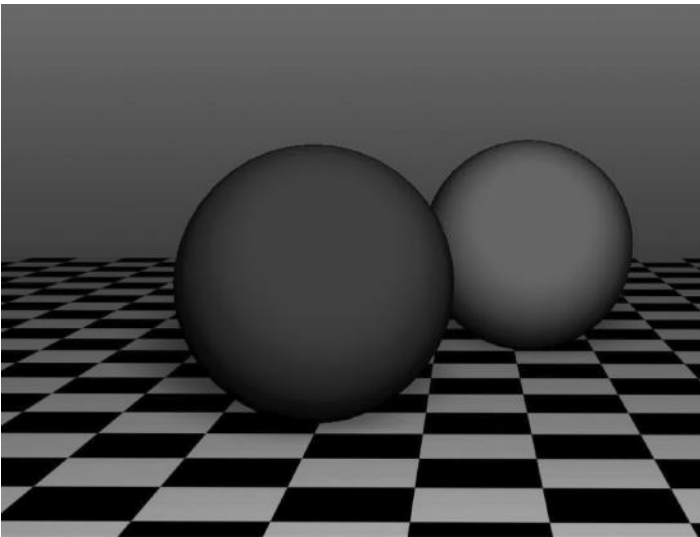

FIGURE 4.39 (SEE COLOR INSERT) Lambert shaders do not have specularity.
**Lambert** is the standard “diffuse-only” shader, which calculates the color values of the pixels without any calculation of reflection. It is the simplest shader, and used to render objects and surfaces that do not have any reflective or shiny properties at all. Figure 4.39 shows our two spheres with blue and red Lambert shaders applied.